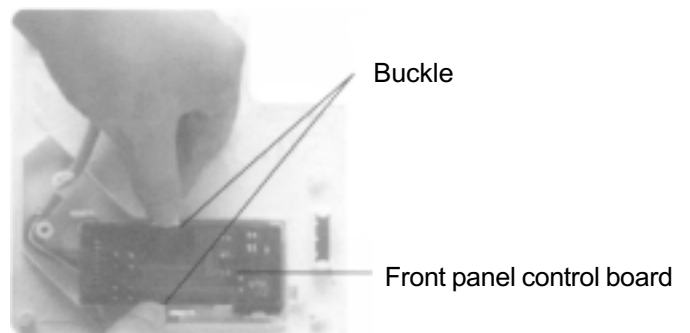

Figure 29
- Pull outwards the two hooks as shown in figure 29 and remove the front panel control board.